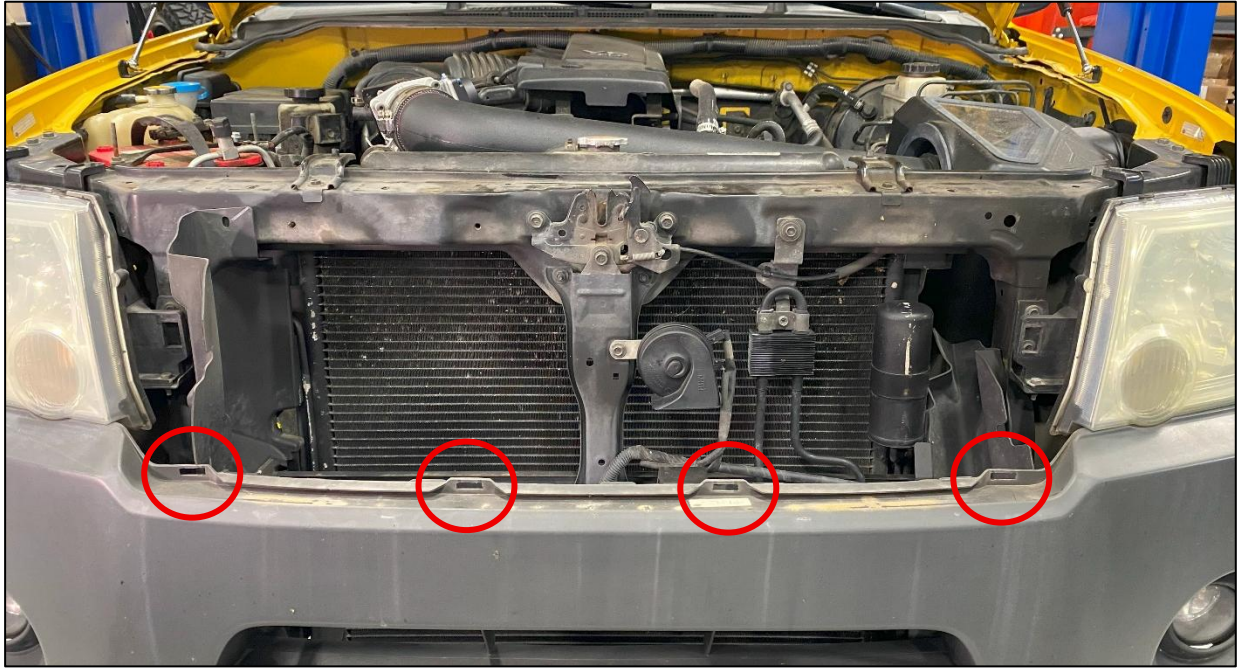

Figure 4
9. Remove the Front Grille from the vehicle. There will be (4) four plastic clips that will need to be released on the bottom of the Grille that secures it to the Front Bumper. *Figure 4.*